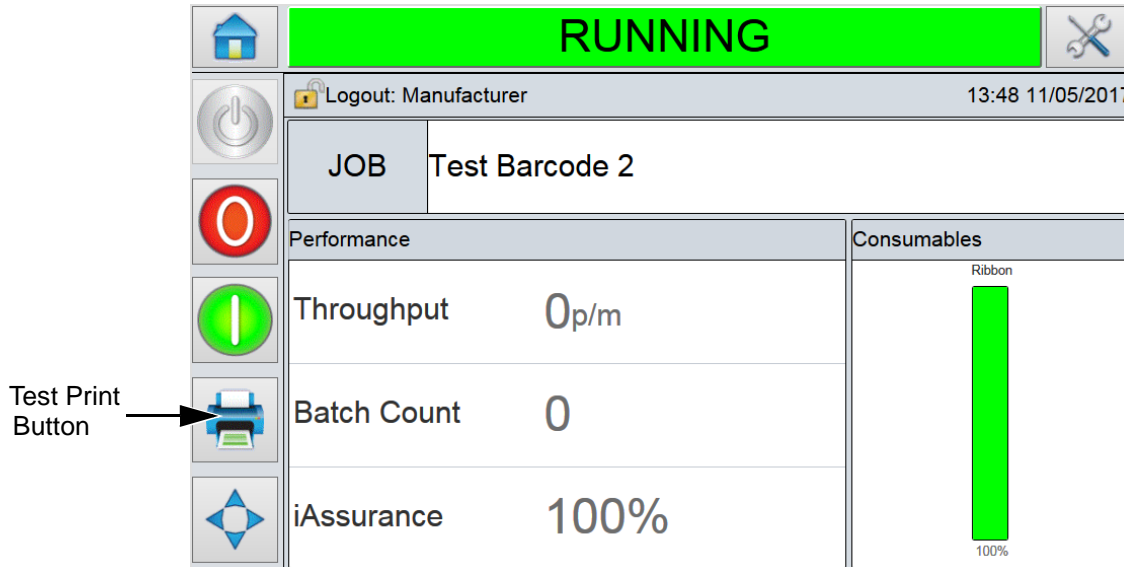

Figure 4-20: Test Print Button
A test image can be printed before running the printer to check if the printed image is of acceptable quality. The Test Print button (Figure 4-20), will appear greyed out if this feature has been disabled by the installation engineer. Also, the printer must be set to the RUNNING state for the Test Print button to be available.
3. Touch  in the CLARiTY's control frame (Figure 4-20). The printer performs the test print.